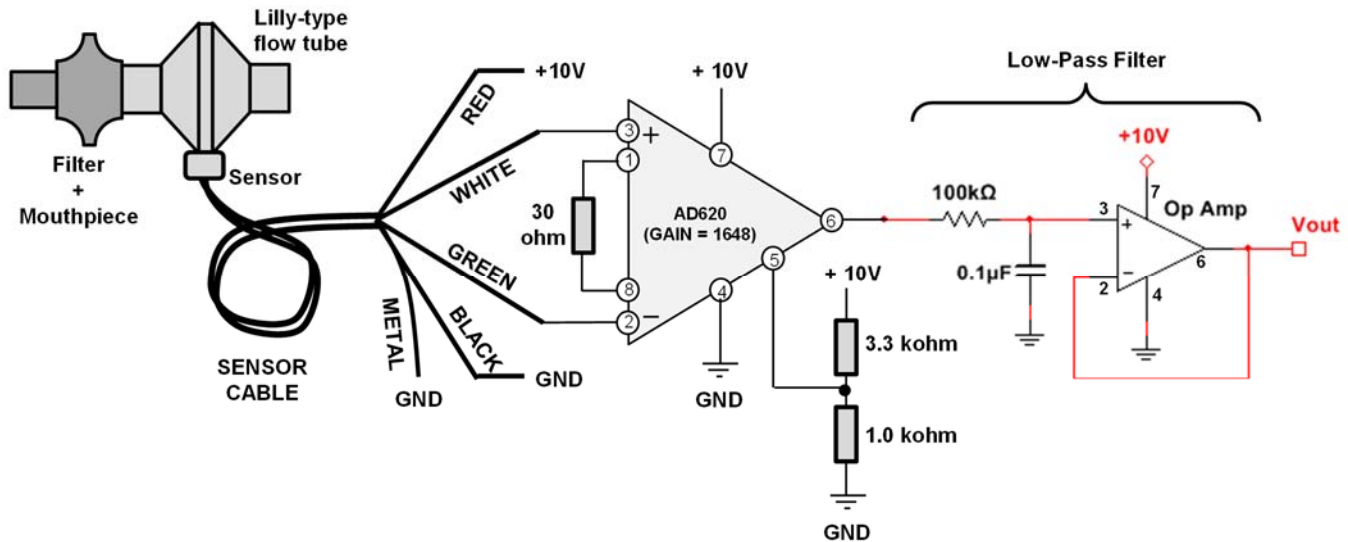

Fig. 2: Electronics for flow head pressure sensor, instrumentation amplifier, and low-pass filter.
- **Step 1a:** Build the circuit in Fig. 2.